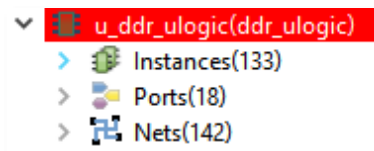

Figure 3.3. Selected Instance from the Instance Window
2. The corresponding instance is highlighted in the instance window as shown in Figure 3.3.